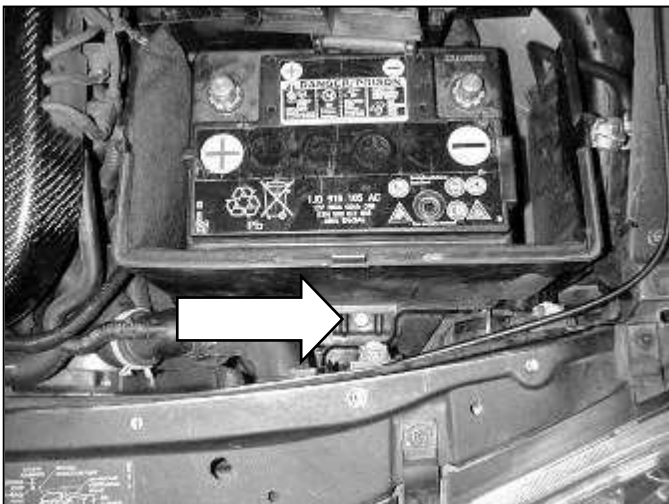

Fig. 3
- c. Remove the battery hold down bolt. **(Fig. 3)**